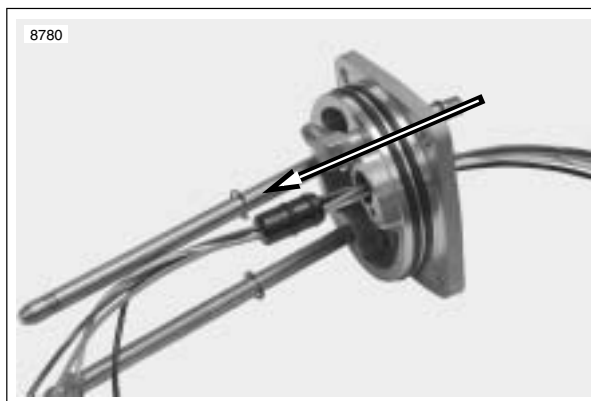
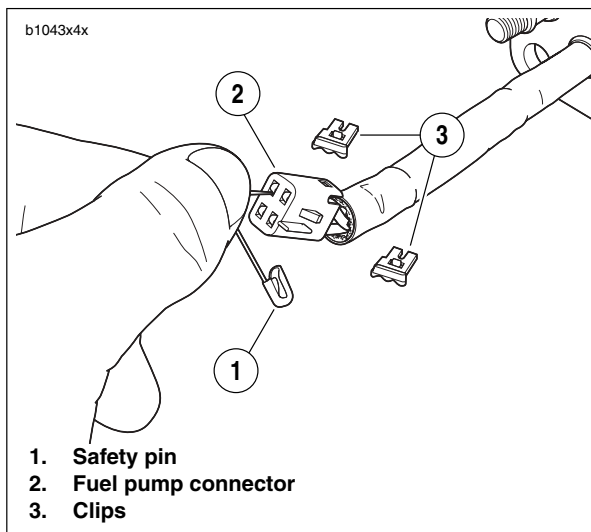

Figure 4-92. Wire Harness Removal Direction
Figure 4-93. Fuel Pump Connector Disassembly
- a. See Figure 4-93. Remove connector clips (3).
- b. Insert push pin/safety pin (1), into connector as shown.
6. See Figure 4-92. From outer side of fuel pump assembly, push wire harness through assembly.